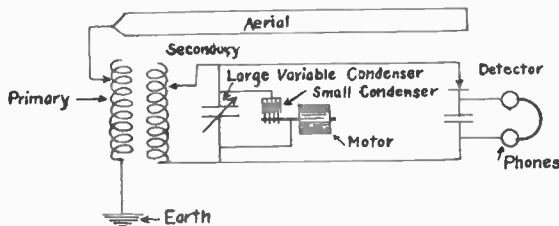

Fig. 71.—Receiving Circuit Using a Rotating Plate Condenser.
3. By means of a rotating plate condenser (See Figure 71). The value capacity of the large variable condenser is so adjusted that the addition of the maximum value of the rotating condenser will place the secondary circuit in resonance with the incoming signals. Thus, for each revolution of the condenser shaft there will be an impulse of the telephone diaphragm. The tone of the signals may be varied by varying the speed of the rotation of the condenser shaft.